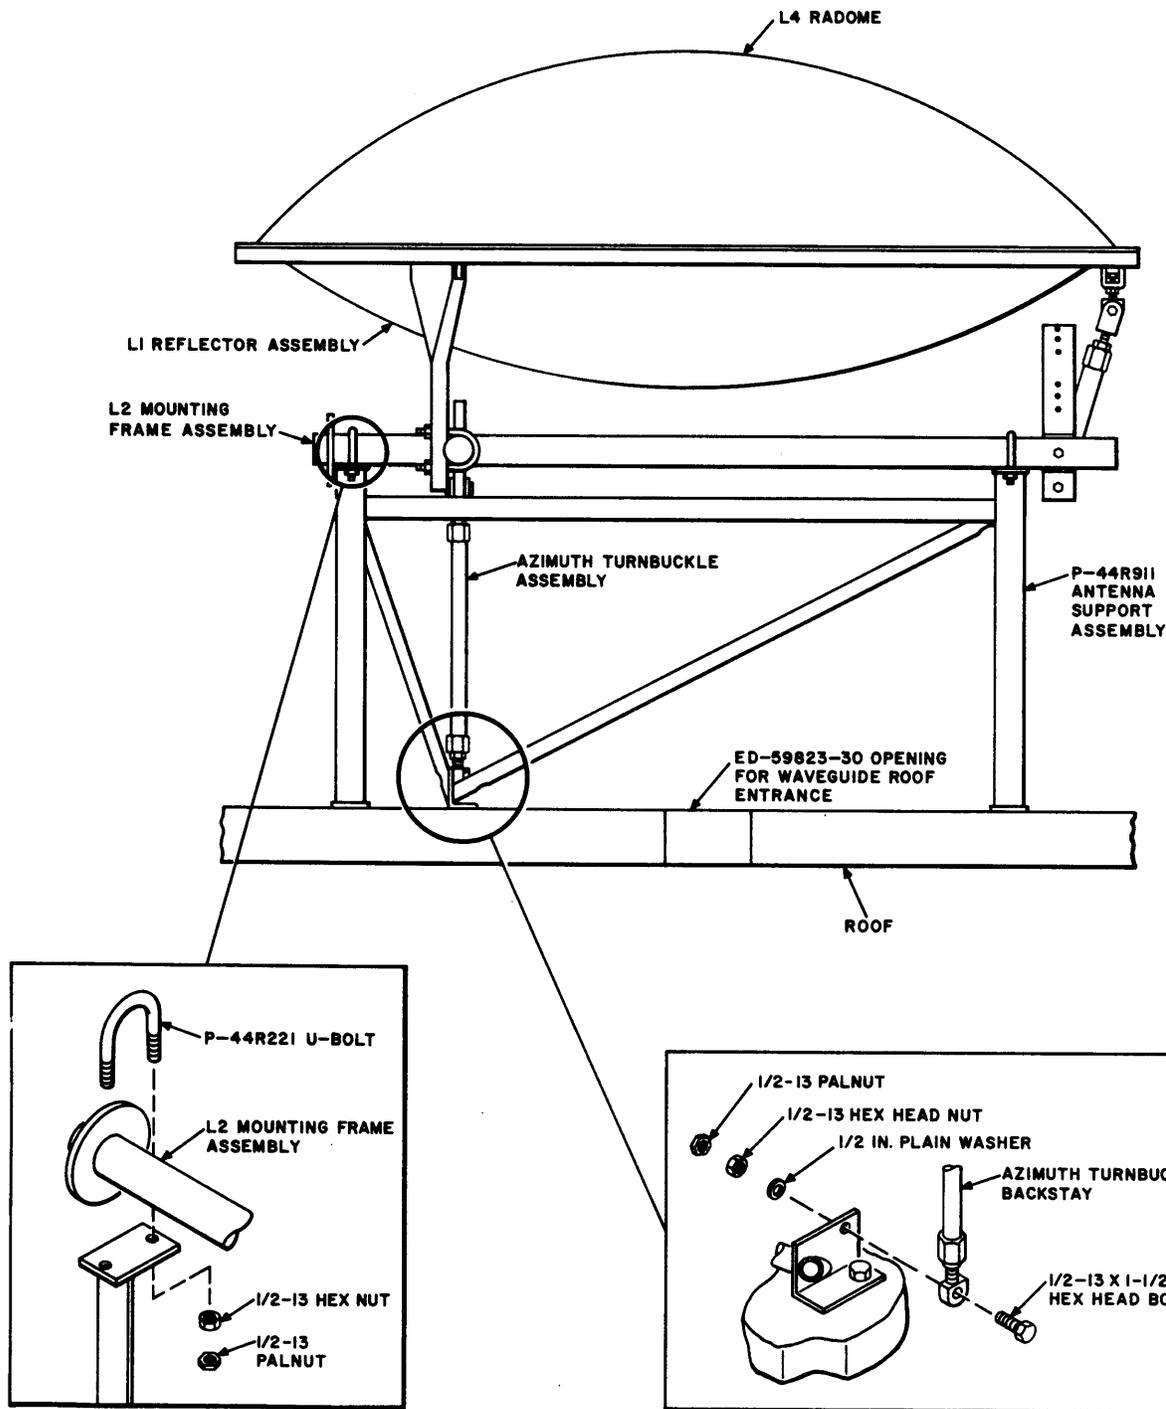

Fig. 17—ED-59804-30 Roof Mounting, Installation Procedure for Antenna
5.55 Position the antenna mounting frame assembly upon the antenna support assembly with the collar on the mounting frame assembly flush with the edge of the flange on the antenna support assembly. Secure with two P-48R221 U-bolts, four 1/2-13 hex nuts, and four Palnuts as shown in Fig. 17.
1/2-13 x 1-1/2 hex head bolt, 1/2 plain washer, 1/2-13 jam hex nut, and Palnut as shown in Fig. 17.